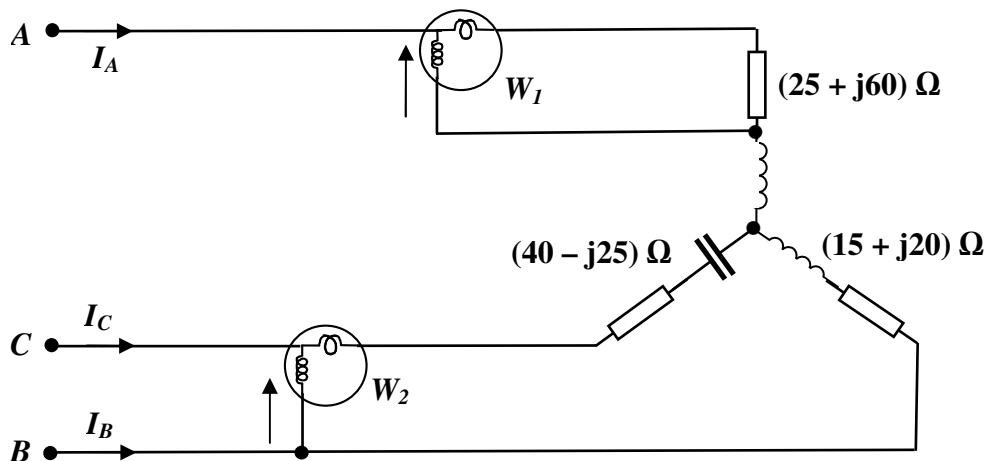
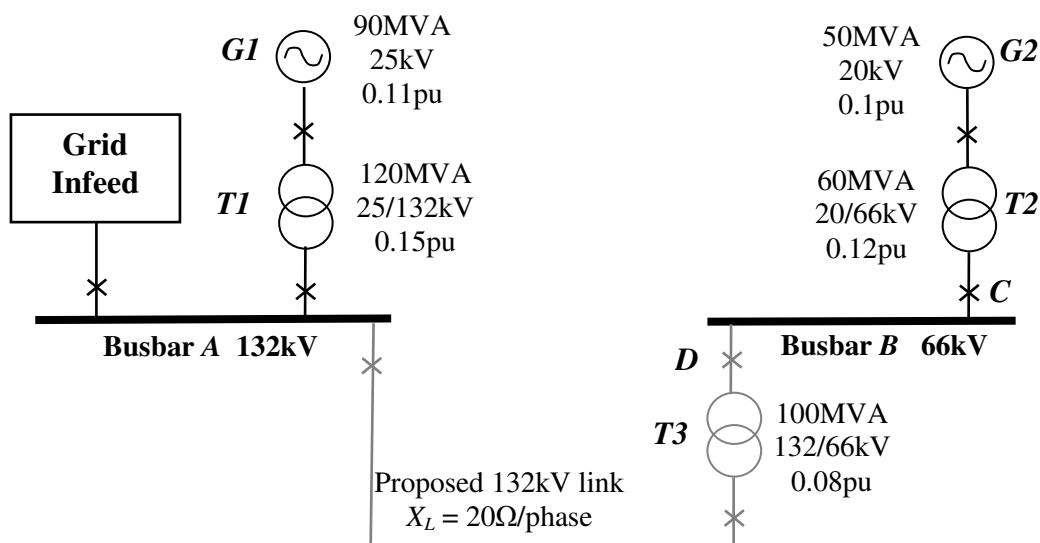

Figure 1.1
Figure 2.1
A three-phase, star-connected load is supplied via a balanced 6.6kV, three-phase, 3-wire supply, of phase sequence ABC. The three-phase load consists of three single-phase loads of $(25 + j60) \Omega$, $(15 + j20) \Omega$ and $(40 - j25) \Omega$, connected between phases A, B, C and the load star point respectively, as shown in Figure 1.1.
- (i) calculate the current in each phase of the load (7)
- (ii) hence calculate the voltage across each phase of the load (2)
- b. Two wattmeters, W_1 and W_2 are to be used to measure the input power to the load. However, during installation the wattmeters were incorrectly connected as shown in Figure 1.1:
- (i) sketch the phasor diagram for the system showing the three line and phase voltages of the supply, the voltages across the wattmeter voltage measuring coils, the three line currents and their relevant angles. (4)
- (ii) hence, calculate the readings on the two wattmeters. Comment on the relevance of the readings on W_1 and W_2 . (3)
- (i) Describe how W_1 may be reconnected to correctly measure the power in the unbalanced load and calculate the new reading for W_1 . (2)
- (ii) Verify that the sum of the power readings on the two wattmeters measures the true power dissipated in the unbalanced three-phase load. (1)
- (iii) If the star point of the load was connected to the neutral point of the supply would the sum of the power readings on the two wattmeters still measure the true power? (Assume the neutral conductor has zero impedance and that the Wattmeters are correctly connected). (1)
- a. Briefly explain and illustrate the operation of the Arc Chute and Blow-out Coil types of plain air break circuit breakers. (3)
- b. Describe what in general is meant by the per-unit value of any quantity. How is this general definition usually applied in 3-phase systems? (2)
- c. Figure 2.1 shows a line diagram of a three-phase network in which it is proposed to link the 66kV busbar **B** to the 132kV system at **A** via an overhead line and a 100 MVA transformer (**T3**) as shown.